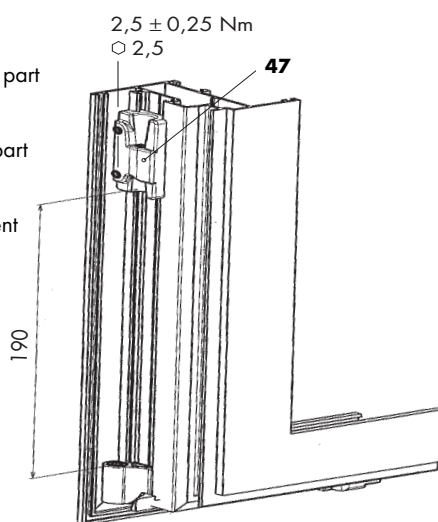

Fig. 3
7. Insert sash part BSU A0040 right/left (47) into the sash groove and secure it (fig. 3).
11. Position sash part BSU A0040 right/left (47) as shown in the adjacent diagram (fig. 3) and tighten with torque  $2.5 \pm 0.25$  Nm.